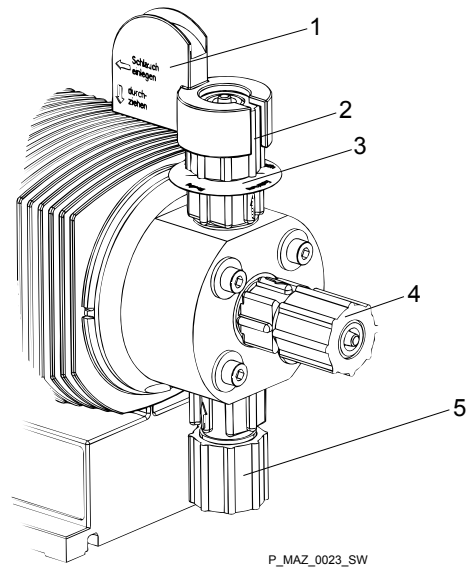

Fig. 8: SEK liquid end
- The return line is connected to the vertical valve on the upper side of the liquid end. It is labelled with a red sleeve from factory - see Fig. 8.